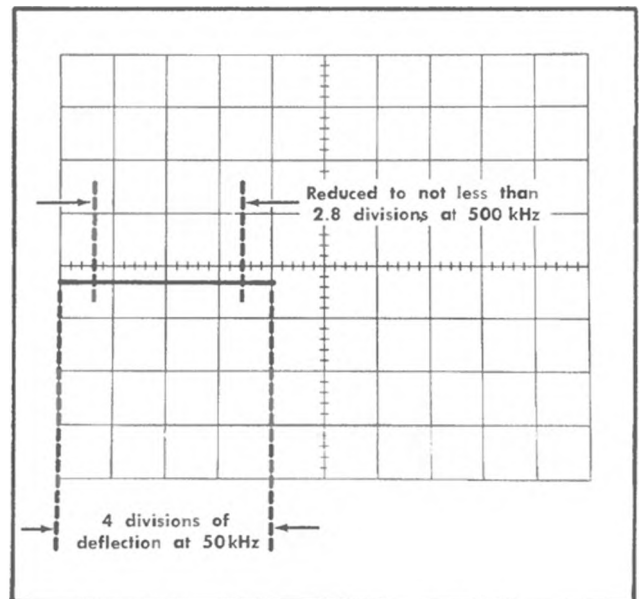

Fig. 6-55. Typical CRT display when checking external horizontal frequency response.
d. Without changing the output amplitude, increase the output frequency of the constant-amplitude generator until the display is reduced to 2.8 divisions (—3 dB point; see Fig. 6-55).